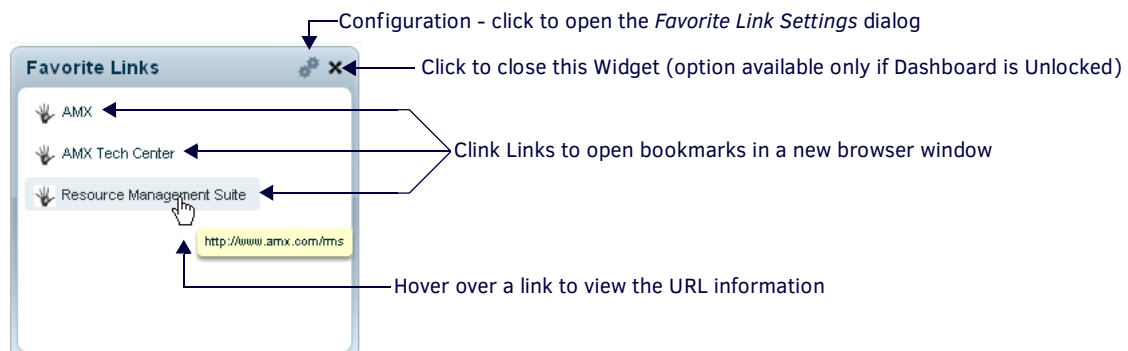

FIG. 113 Favorite Links Widget
The *Favorite Links* widget allows users to save custom URL bookmarks for quick and convenient access (FIG. 113).
1. Click the *Configuration* button in the upper-right corner of the widget's title bar (see FIG. 113 on page 74) to access the *Favorite Links Settings* dialog.
1. Click the Configuration button in the title bar of the Favorite Links widget (see FIG. 113 on page 74) to open the *Favorite Links Settings* dialog.